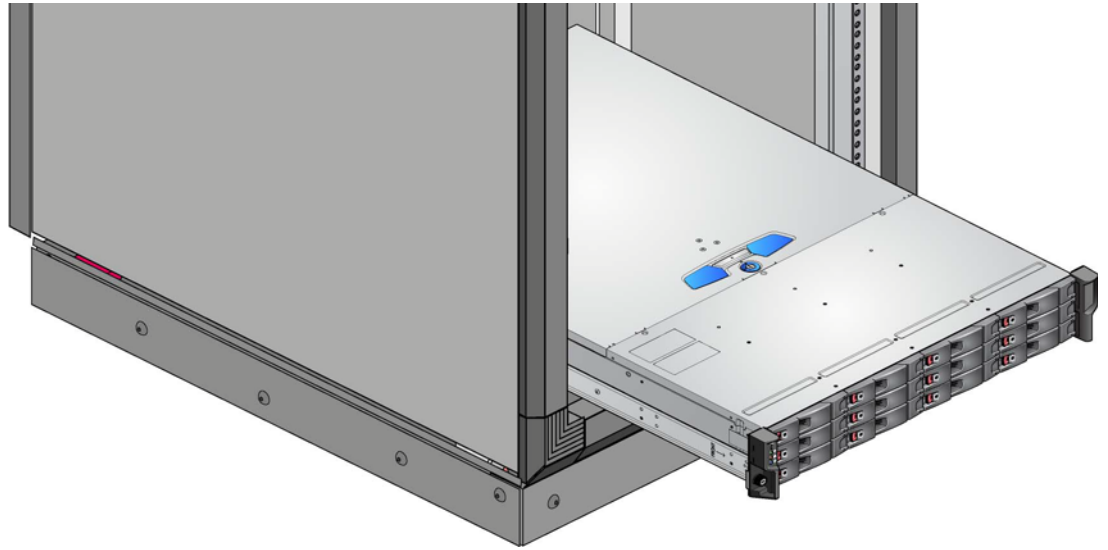

Figure 3-4 Mounting the System into a Rack
- 7 Slide the chassis fully home on the rails (Figure 3-4).